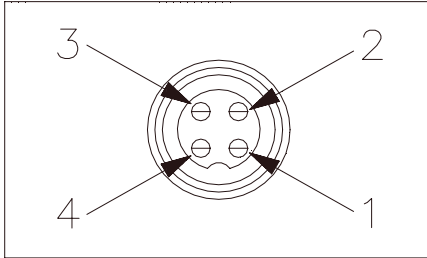

**Fig. 2** Microphone plug wiring
4. Feed the microphone cable through the housing, knurled ring and washer as shown Figure 2.
Be sure that the housing and the knurled ring of Figure 2 are pushed back onto the microphone cable before starting to solder. If the washer is not captive to the pin receptacle body, make sure that it is placed on the threaded portion of the pin receptacle body before soldering.